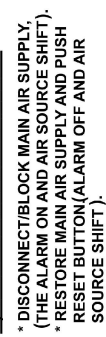

FIGURE 4
- A. With ASODD housing open, plug Power Supply cord into 115 AC source. The Audible Alarm should come on and remain on through steps B, C and D. (See Figure 4)
- B. Continuous Basis: When using the ASODD on a continuous basis, the system should be tested at least monthly, per (A) above to assure system is operating properly.